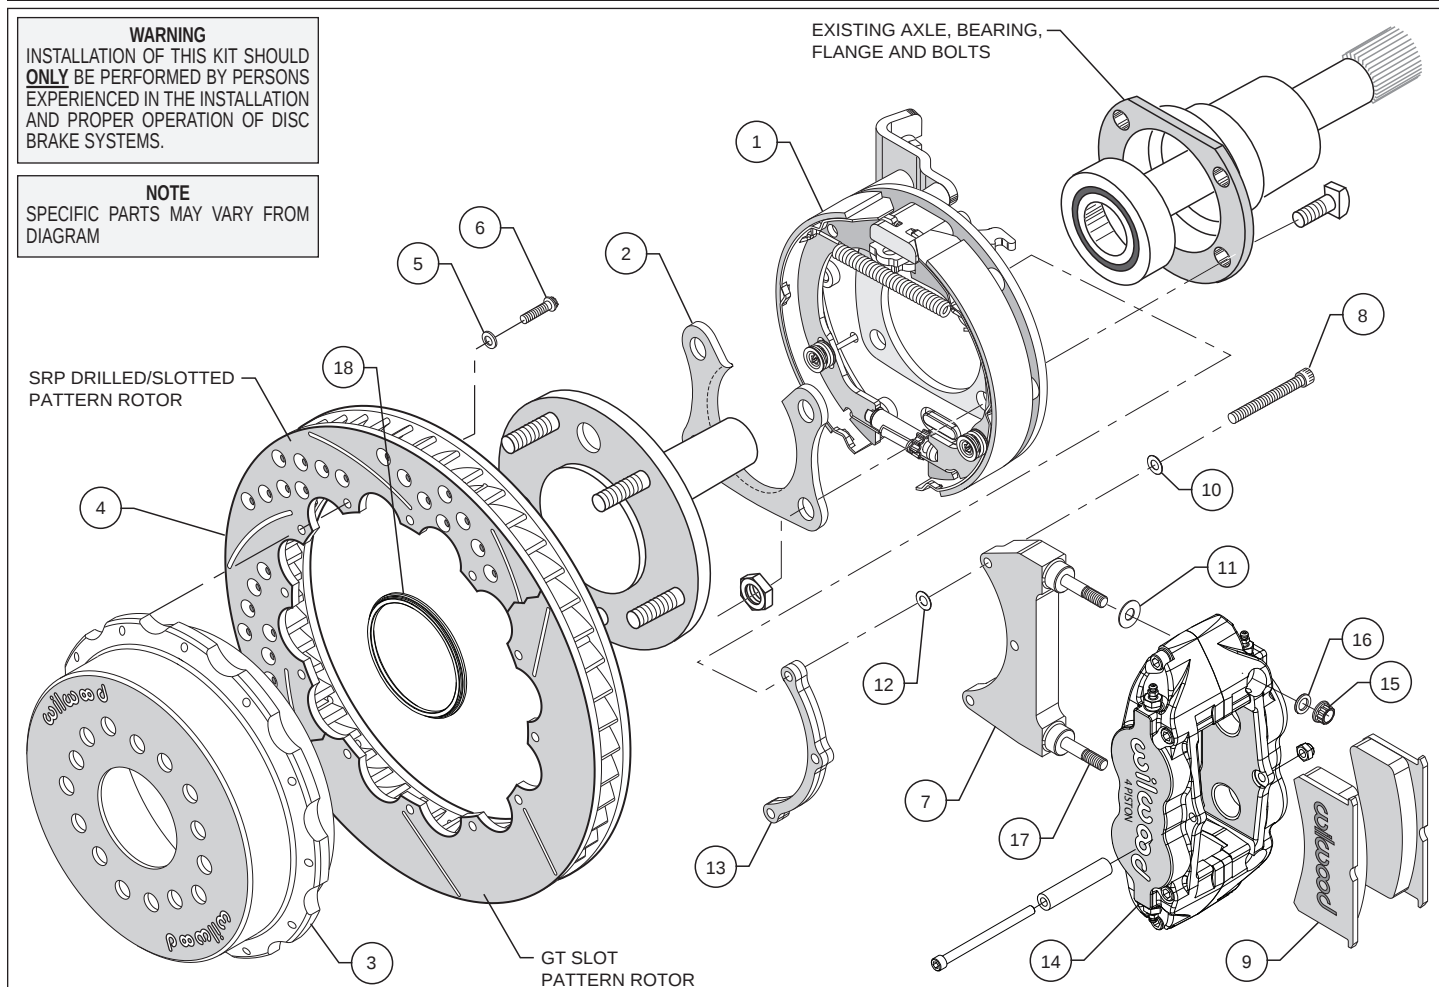

Figure 1. Typical Installation Configuration
- Slide the bracket kit assembly (1) onto the housing flange and then insert the axle assembly through the center hole of the bracket kit assembly (1). Align the bearing retainer, as shown in Figures 1 and 4, and secure using the stock Original Equipment Manufacturer (OEM) bolts and nuts. Stock OEM hex nuts that retain the bracket kit assembly (1) and retainer (2) should be on the wheel side of the bracket. Apply red *Loctite*® 271 to the stock OEM bolt threads and torque to OEM specifications. Make sure the bracket kit assembly (1) brake pads are FACING OUTWARD TOWARDS THE WHEEL.
•**NOTE:** Please reference the caution statement at the beginning of the assembly instructions. The caliper mounting bracket assembly (7) should be installed first with clean, dry threads on the mounting bolts (8). Install the bracket from the rear side of the bracket kit assembly (1) by sliding bolt (8) through flat washer (10), bracket (7), shim washer (12) and finally through the spacer (13), see Figure 1. **NOTE:** End of bolt should not exceed inside face of insert. The bracket must tighten squarely against the back side of the bracket kit assembly (1). Inspect for interference from casting irregularities, machining ridges, burrs, etc. Use one thin shim (12) between the bracket (7) and spacer (13) during initial trial fitting.
•Install one shim (11) over each pre-installed stud (17) on the radial mount bracket (7). Slide the caliper (14) in place over the studs and rotor, then install the washer (16) and lock nut (15) to hold the caliper in place. Snug the lock nuts (15) and check that the rotor (4) is centered in the caliper (14). Add or subtract .015" shims (12) as necessary between the caliper mounting bracket (7) and the spacer (13) to center the caliper (14).
•Remove the caliper center bridge pad retainer bolt, nut, and tube from the caliper. Slide the brake pads (9) into place. They should install easily without interference. Check that the outside radius of the brake pad is aligned with the outside diameter radius of the rotor face. Add or subtract shims (11) between the caliper (14) and mount bracket (7) to gain the proper alignment. Reinstall the center bridge pad retainer tube, bolt, and locknut. The locknut should be snug without play in the bolt or tube. Be cautious not to over tighten.
•Adjust the parking brake shoes outward (using a drum shoe adjustment tool available at your local auto parts store) while spinning the hat (3) until a slight drag is felt against the hat/drum. Remove the lug nuts that were holding the hat/rotor in place. Install the wheel and lug nuts. Check to see that the wheel rotates freely without interference.
•Once all clearances have been checked, remove the wheel, caliper, hat/rotor from the bracket kit assembly (1). Secure the caliper mounting bracket (7) to the bracket kit assembly (1) using red *Loctite*® 271. Torque bolts (8) to 180 in-lb. Reinstall the hat/rotor assembly and again use lug nuts to hold it in place. Lubricate caliper mounting studs and nuts with lightweight oil, reinstall the caliper, torque the caliper nuts (15) to 30 ft-lb.
•**NOTE:** Clevis and cable kits which attach to the parking brake assembly are not included in the Wilwood parking brake kit. Wilwood offers a generic style parking brake cable kit, P/N 330-9371 for this application which can be ordered separately from your local Wilwood dealer or by calling Wilwood customer service at (805) 388-1188.